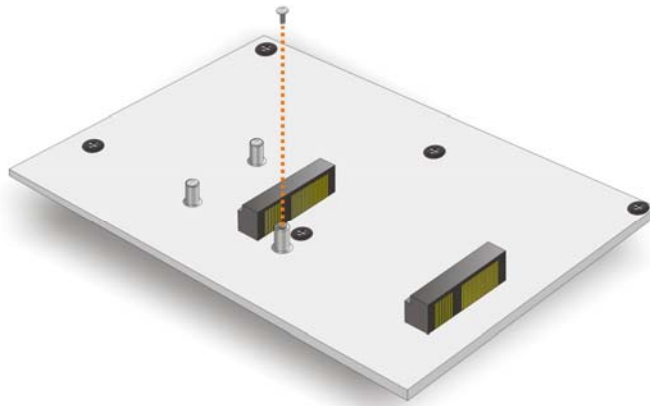

Figure 3-7: Remove the Retention Screw for the Full-size PCIe Mini Card
Step 3: Remove the retention screw secured on the motherboard as shown in **Figure 3-7**.